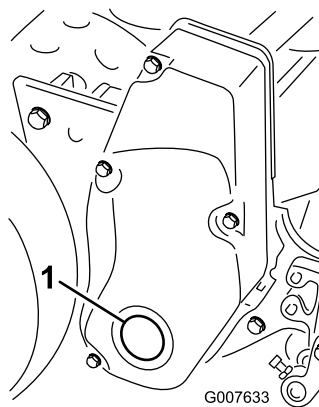

Figure 50
1. Remove the plug in the right reel drive cover (Figure 50).